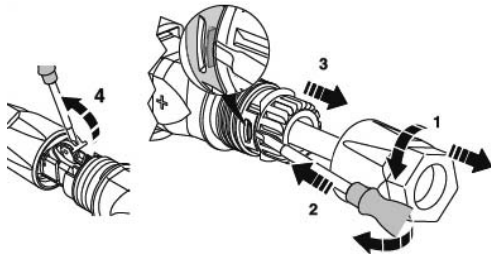

Figure 37
3.1 Disconnect the cable (Figure 37)
- 2 Insert the screwdriver as shown in Figure 37.